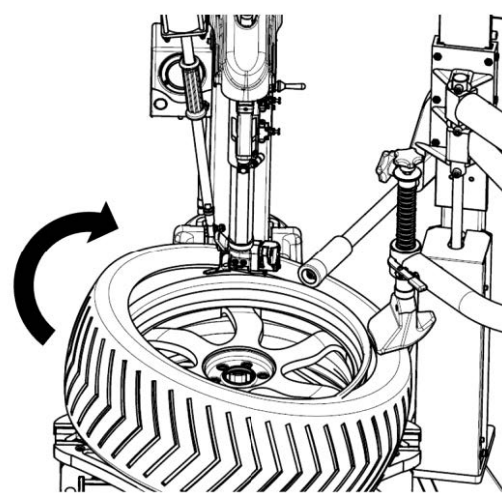

FIG 35
- In the same way, Position the left of the lip above the tail of the demount tool and the right under the hump of the demount tool. Press hard the right side tire wall. If there's assist arm, need position the fixture press rod and rotation rod like FIG35 and press the tire lip down rim the tire detach slot. Then step the rotation pedal to observe the tire lip and demounting hook, if there's no abnormality, step down the rotation pedal to rotate the turntable clockwise to mount the upper side of tire lip into the rim.